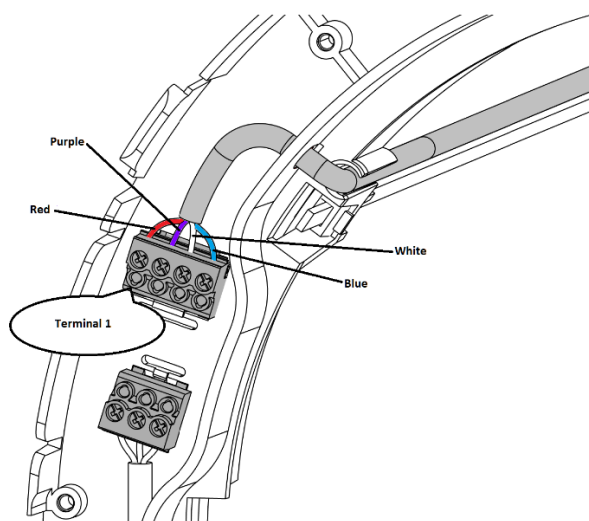

Figure 27 - 24V cable connection to terminal 1
2. Adjust the cable length and attach the cable to terminal 1 with the color codes provided in Figure 27 below.